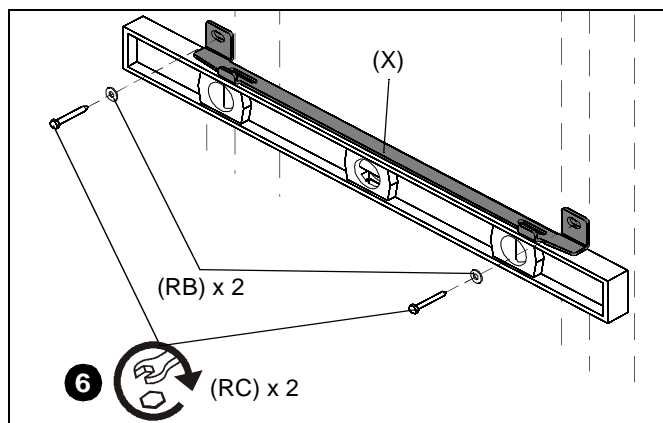

Figure 5
6. Attach mounting bracket (X) to wall with two 5/16 x 2-1/2" lag screws (RC) and two 5/16" flat washers (RB). (See Figure 5)